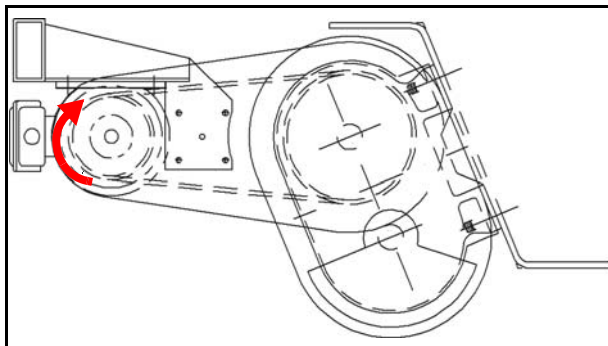

Figure 3-13 Iso-Drive® Motor Rotation
3. Wire the motor for clockwise rotation. When facing the pulley end of the drive motor, wire the motor so the pulley turns in clockwise rotation, as shown in Figure 3-13. There is a directional arrow decal on the motor indicating proper clockwise rotation.